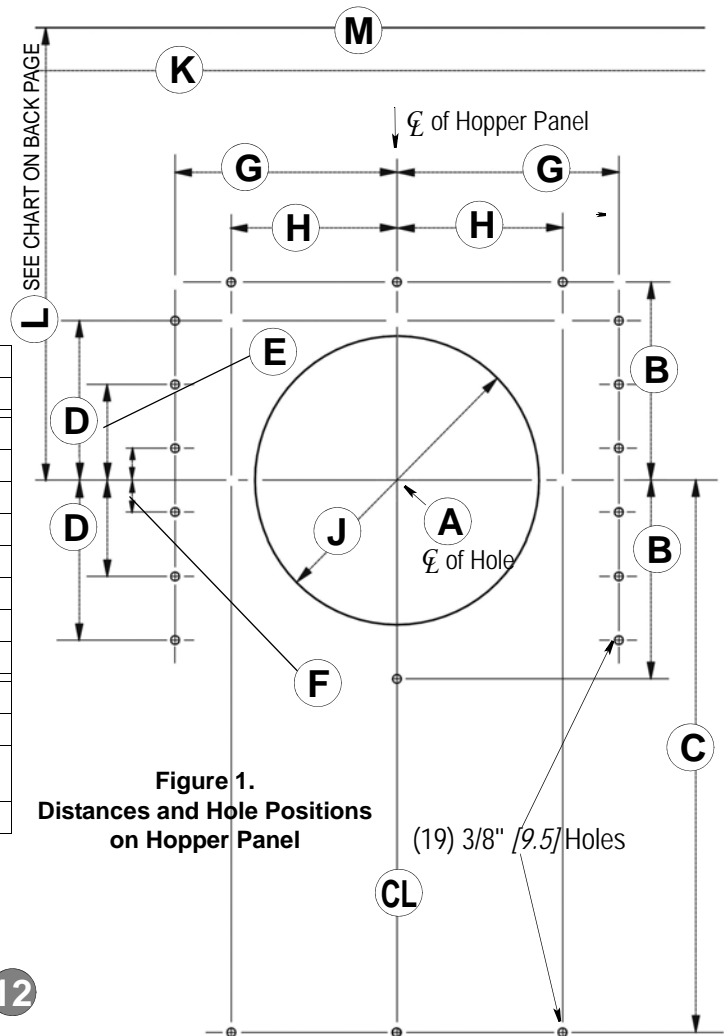

Figure 1.
2. Use **Figure 1** at right and the Mounting Plate (Item 5) as a hole template. Locate and mark the 12" circle center and nineteen (19) Bolt holes.
4. Drill nineteen (19) 3/8" [9.5] diameter Bolt holes.